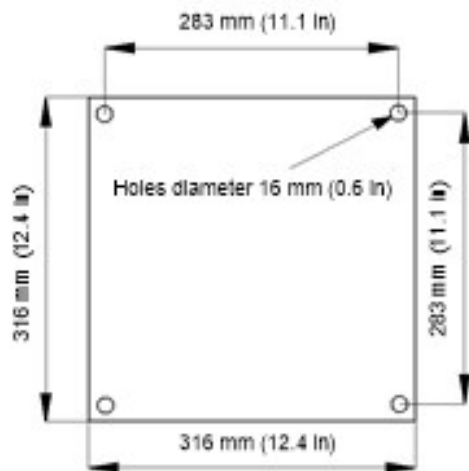

Figure 4-1. Mounting base footprint
Mount the SkyVue 8 by bolting to a firm, level foundation. When bolting down, ensure the SkyVue 8 can tilt in all desired directions. Figure 4-1 (p. 16) shows the mounting footprint. If a suitable surface does not already exist, construct a concrete foundation, at least 600 mm (23.6 in) square and 600 mm (23.6 in) deep, by using the following procedure:
1. Drill four 12 mm (0.47 in) diameter holes using the mount base as a template (see Figure 4-1 [p. 16]) to a depth of 77 mm (3.03 in).